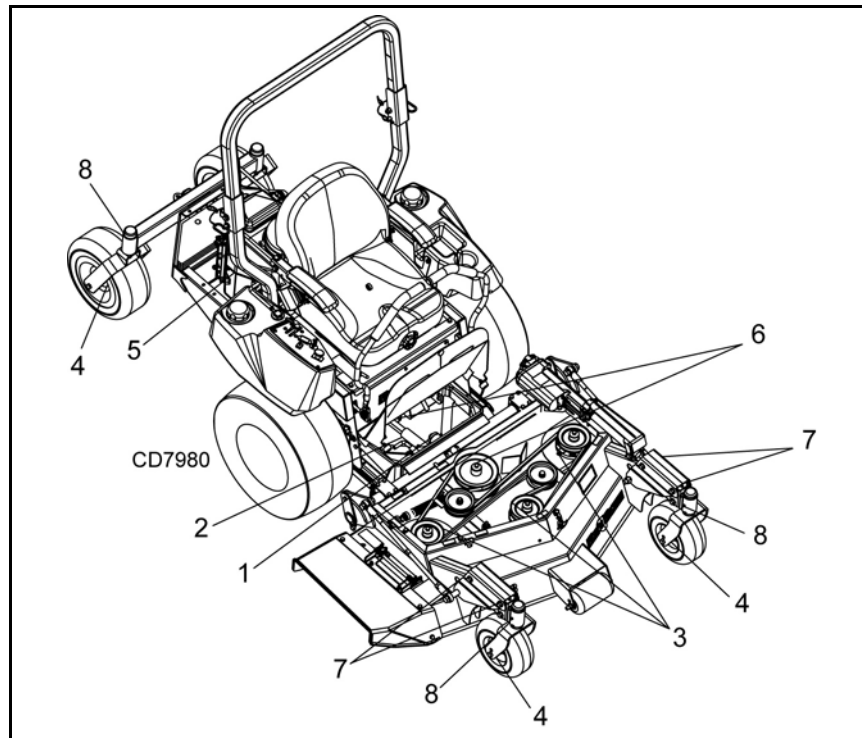

Figure 4. Lubrication Diagram
2. See Figure 4 for lubrication points and frequency or lubrication based on normal operating conditions. Severe or unusual conditions may require more frequent lubrication.